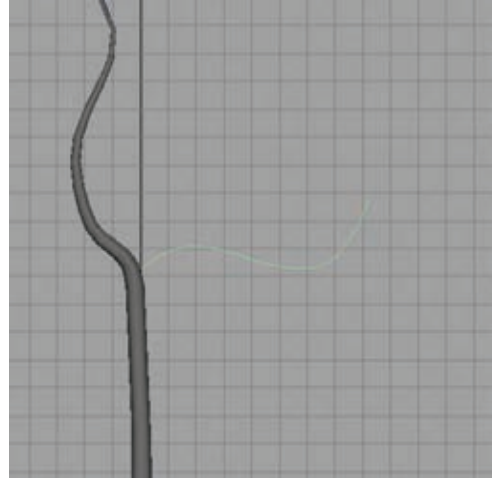

Figure 2.21
10. Let's create another branch. Use the CV Curve tool in the Side or Front view to create the path of another branch off the trunk, as in Figure 2.21.